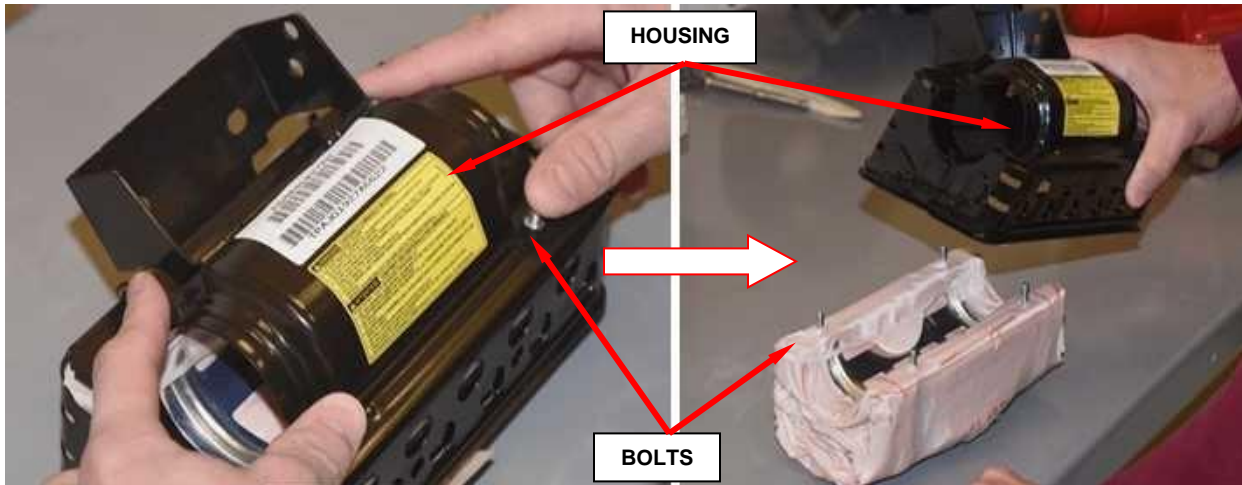

Figure 22 - Remove Airbag Cushion from Housing
- g. Remove airbag cushion from housing by applying pressure to the bolts, set cushion aside (Figure 22).